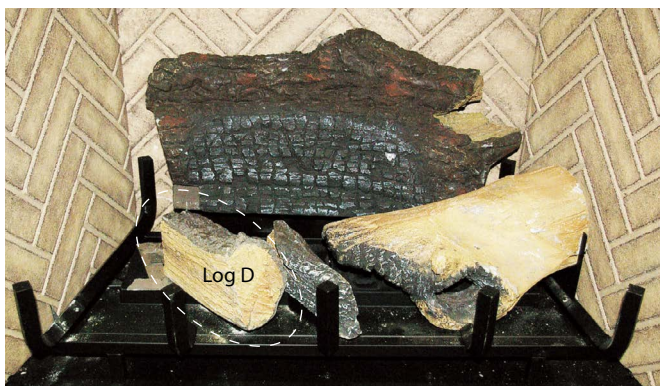

Figure 18j. Installation of Log 'D'.
Step 7. Place Bottom Left Log 'D', with the flat edge down. and place square end inside Log Rest, aligning the center of the Log with the Spikes, **Figure, 18a.** Press FIRMLY, seating the Log onto the sharp spikes, **Figure 18j.** Note the color variation in the Log.